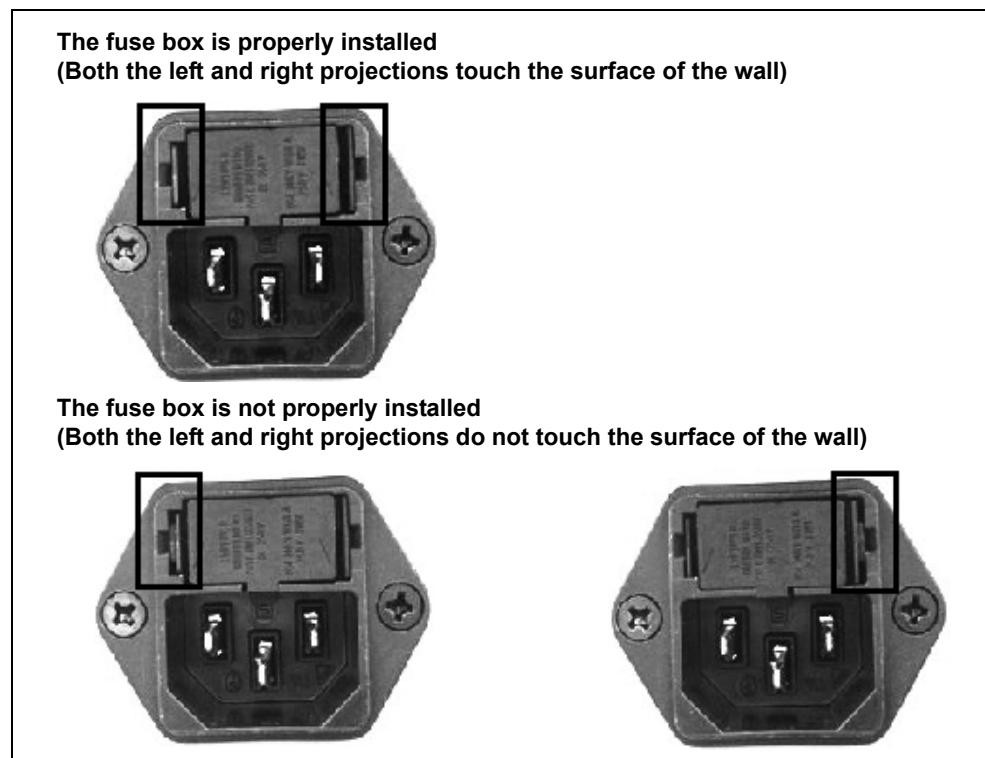

Figure 6.9
- 6 Insert the fuse box into this equipment until it clicks. Confirm that the fuse box is properly installed, referring to Figure 6.9.